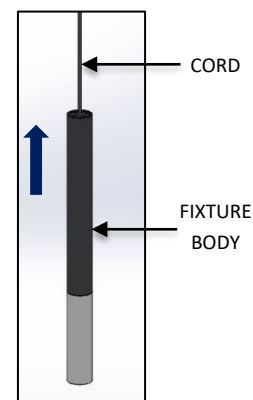

FIG. 25 - FIXTURE INSTALLATION
2. Raise the GLOWSTICK FIXTURE as shown below in FIG. 25 and pass the cord through MOUNTING BRACKET. Adjust fixture drop to desired height.